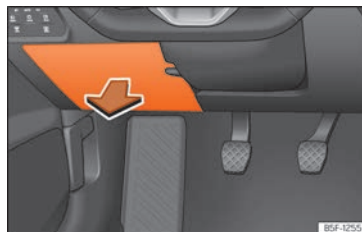

Fig. 50 On the driver's side dashboard: fuse box cover.
- *Open*: fold the cover down »» **Fig. 50**.